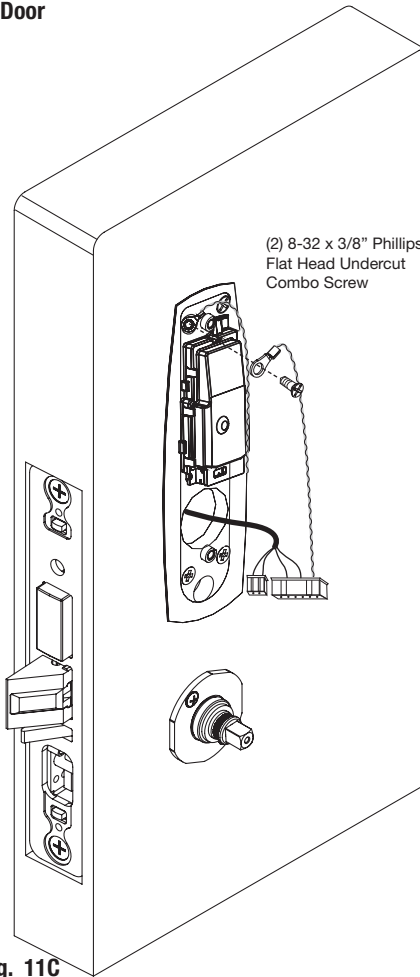

Fig. 11C
- Position green/yellow reader harness earth ground on top of two-wire ground ring and thread both with (1) 8-32 x 3/8" Phillips flat head undercut combo screw (Fig. 11C, D).